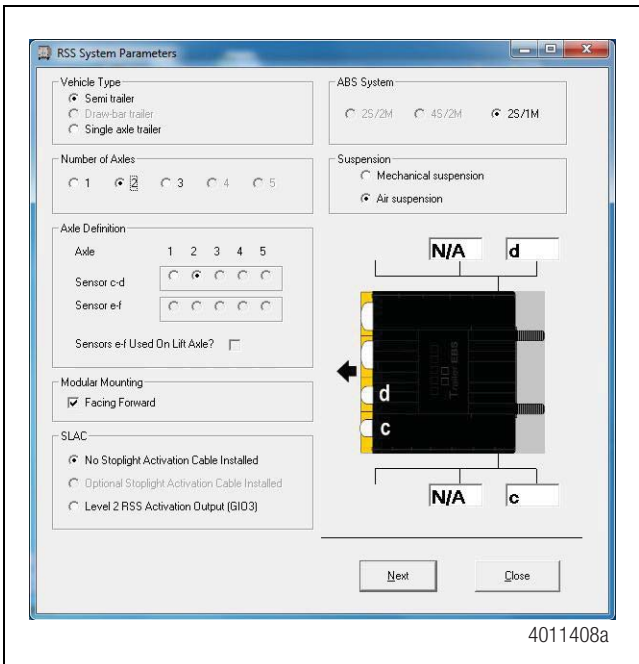

Figure 4
- From the first parameter screen labeled *RSS System Parameters*, press the **Next** button located at the bottom of the window. There is no change in parameters at this screen. Figure 4.